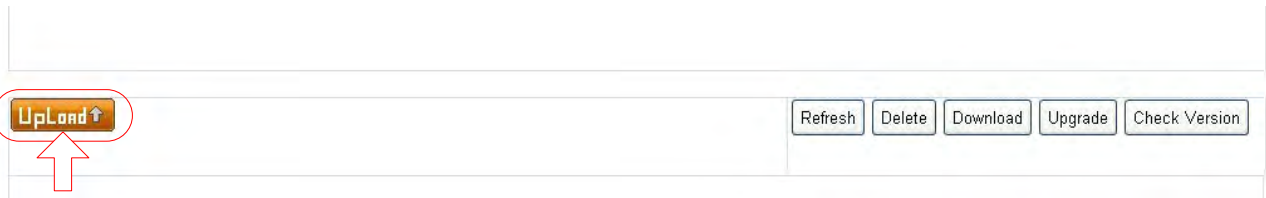

Figure 8-3 Software Upgrade Step 2
2. On the software upgrade page, as shown in Figure 8-3, click the **Upload** button to upload the RU or EU software package file.